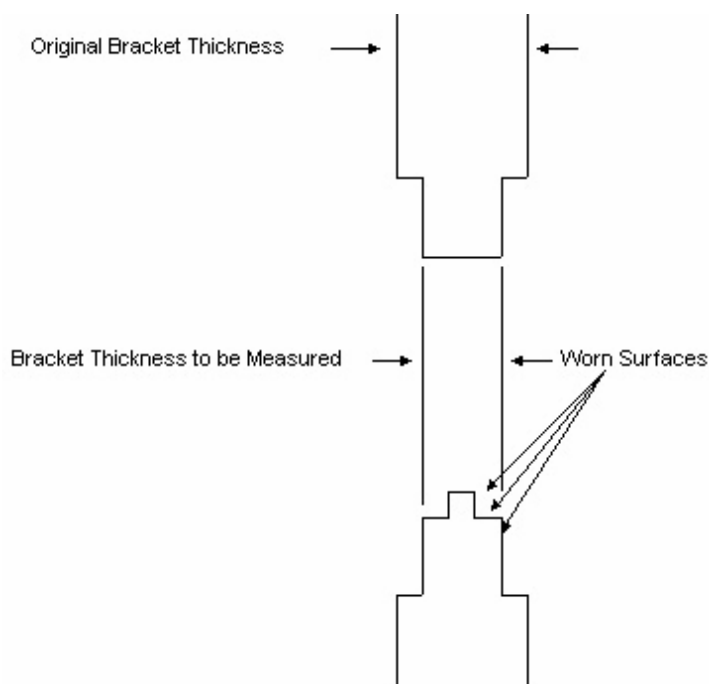

Figure 8.2: Measurements of Bogie and Bolster Traction Rod Brackets
- 8.2 Measure the thickness of the brackets on the bogie frame and bolster immediately adjacent to the mounting hole, as shown in Figure 8.2.